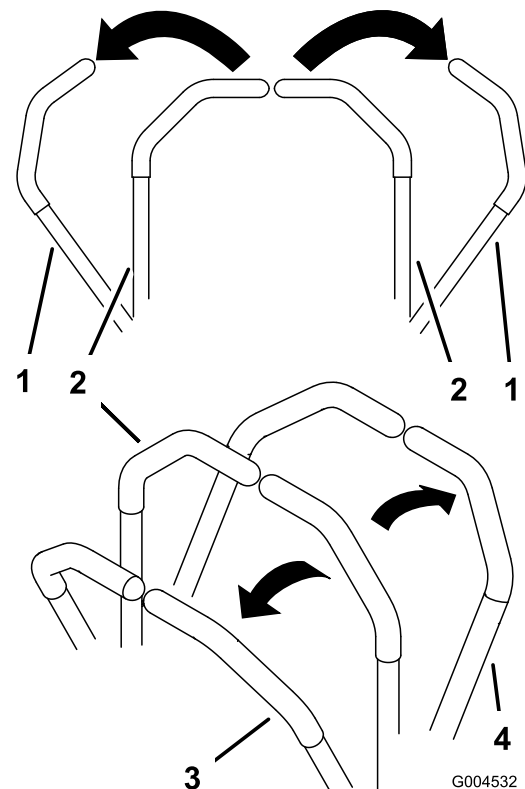

Figure 15
3. To go forward, slowly push the motion control levers forward (Figure 15).
To go straight, apply equal pressure to both motion control levers (Figure 15).
To turn, move the motion control lever toward neutral in the direction you want to turn (Figure 15).
2. To go backward, slowly pull the motion control levers rearward (Figure 15).
To turn, release pressure on the motion control lever toward the direction you want to turn (Figure 15).